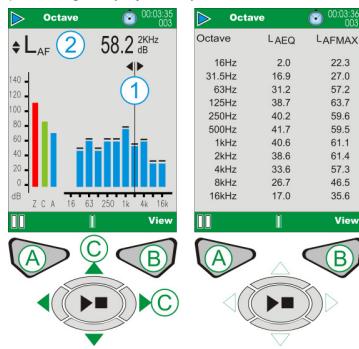

Figure 13 CEL-62XB (& C) Main Run Screens
CEL-62XB & C Models (Refer to Figure 13).
The CEL-62XB (& C) provides two additional octave (or 1/3 octave) screens shown in Figure 13. Use the **View** key (B) to toggle the four available screens. Use the **Left/Right** cursor keys (C) to move across the frequency bands (1) when in graphical view. Use the **Up/Down** cursor keys (C) to toggle between LMAX and LEQ Parameters (2).